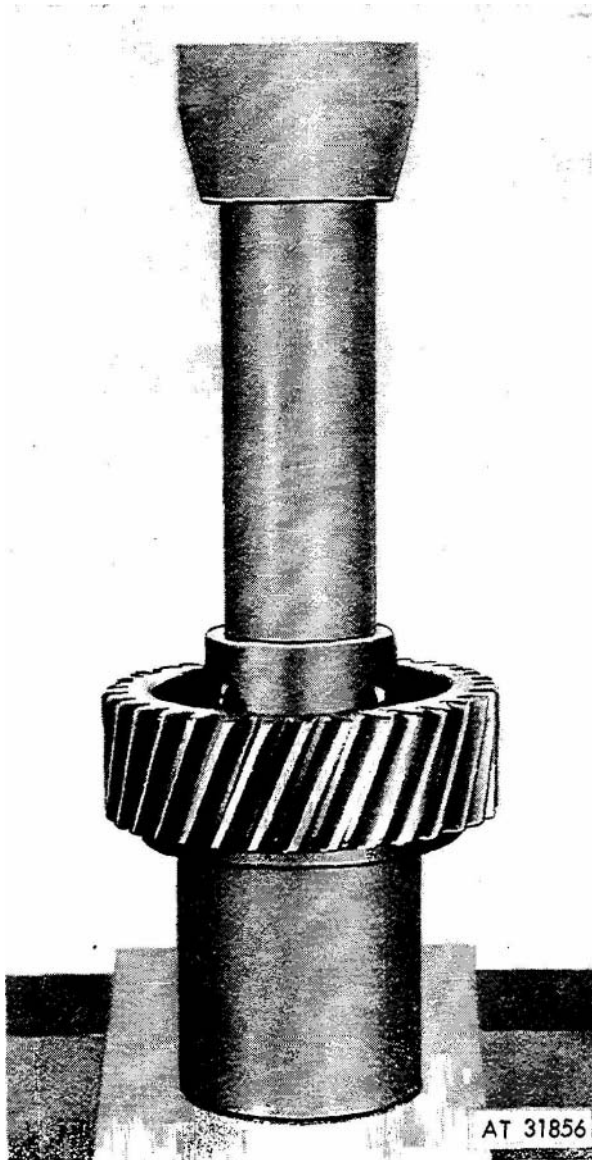

Figure 3-59. Pressing input shaft from transfer case.
(27) Position transfer case in press and press input shaft (21) from transfer case (fig 3-59).